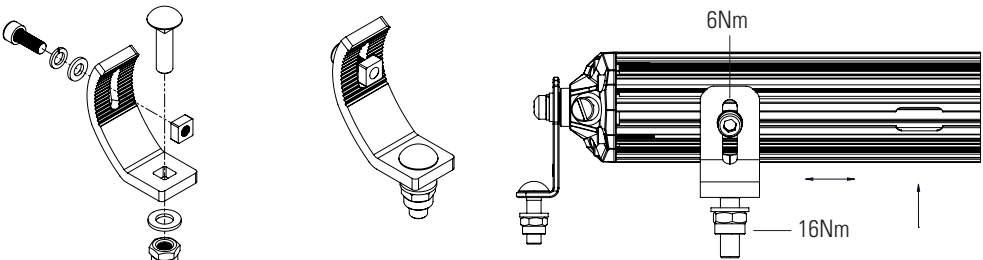

Figure 3
1. Attach rear slide mounts when pre-assembled to the Light Bar as indicated below (Figure 3)